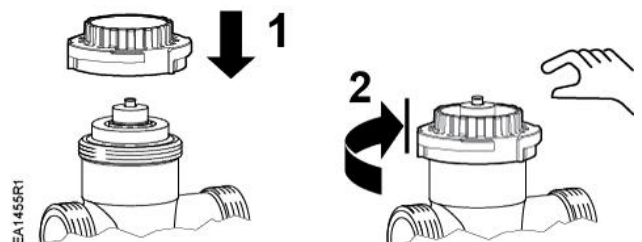

Figure 2.
2. Screw the bayonet nut (included with actuator) onto valve bonnet as tightly as possible, by hand. See Figure 2